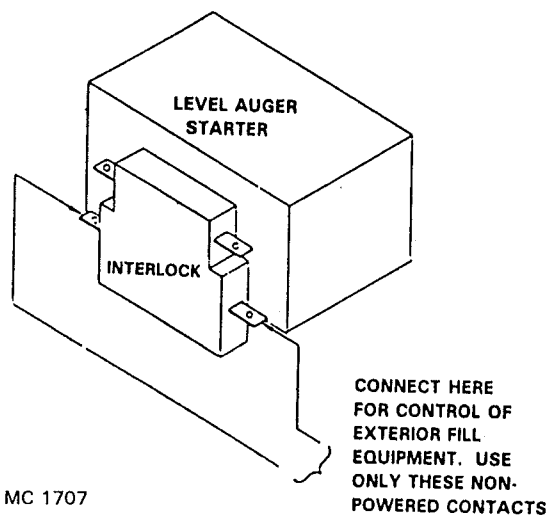

Figure 7 - CF620/720 & CF820 Level Auger and Unload Auger Motor Magnetic Starter Non-Powered Auxiliary Contacts
2. On Models CF620/720 and CF820 which have a level auger, the non-powered auxiliary contacts of the level auger starter are used to control the fill auger motor magnetic starter coil. See Figure 7.
3. On Models CF620/720 and CF820 unload auger magnetic starters have non-powered auxiliary contacts that can be used to control the customer supplied take-away equipment. See Figure 7.